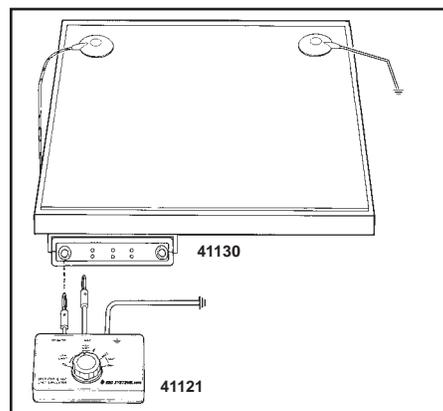

Figure 6. Connecting test lead from 41121 to 41130.
Step 2: Insert the calibration unit's banana plug marked "Operator" into the "OP1" jack on the 41130. See figure 6.